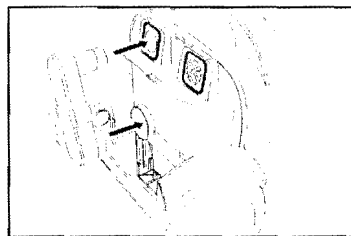

Fig. 21
- o Introduce the blower into the hole; push it in as far as it will go until snug, as shown in the illustration. Fig. 21.
- o Switch on the machine at the main switch (2) and push the vacuum function button (7).
- o Adjust the vacuum power via the vacuum power buttons (12)/(14) (increase/reduce vacuum power).